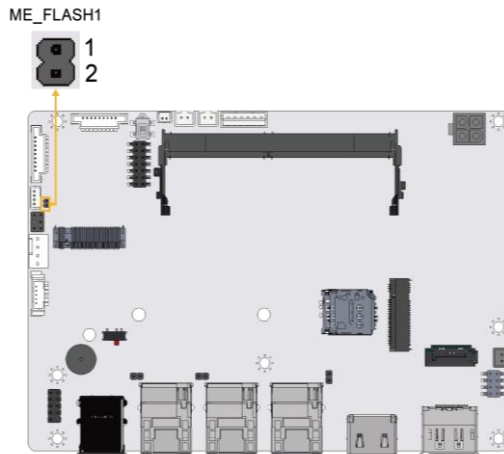

Figure 3-4: ME Override Setting Jumper Locations
- CN Location:** See Figure 3-4